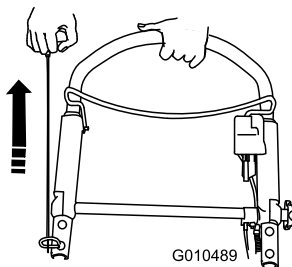

Figure 24
- Pull the recoil starter (Figure 24).